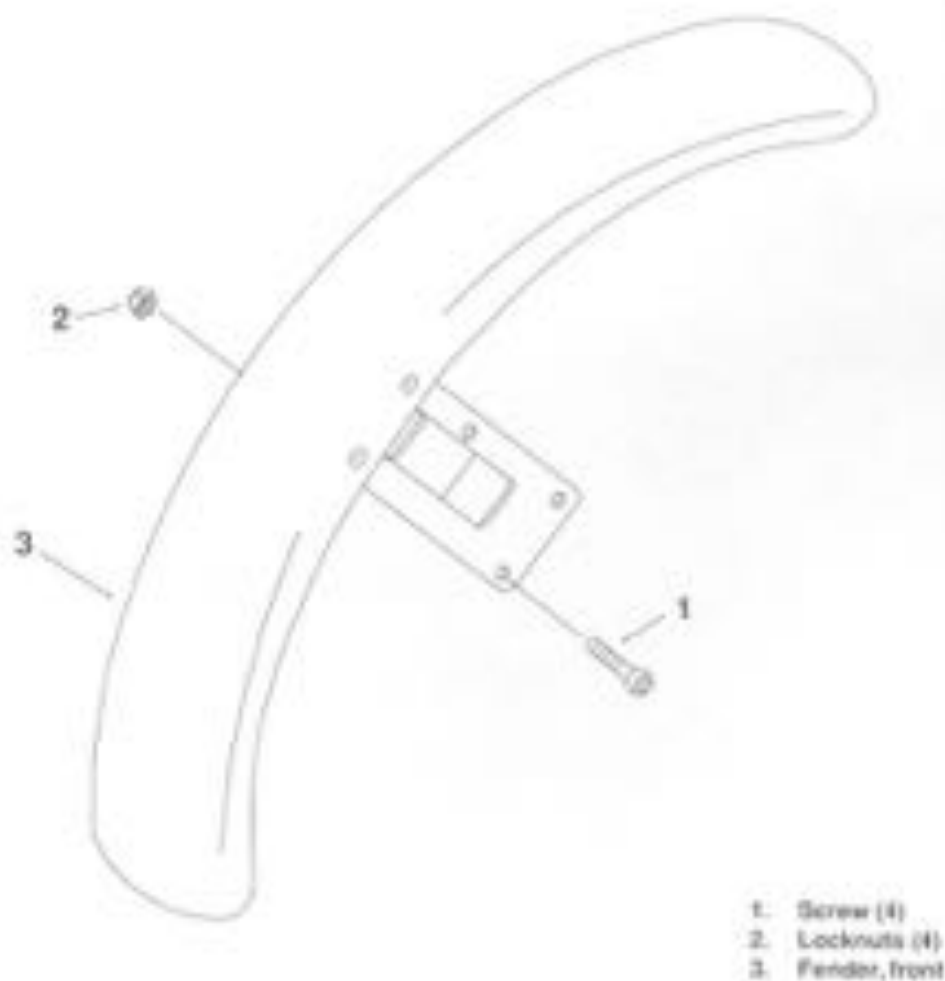

Figure 2-88. Front Fender
REMOVAL (Figure 2-88)
INSTALLATION (Figure 2-88)
2. See Figure 2-88. Remove locknut, bolt and T-spacer to detach top of rear fender from tab on frame cross member.